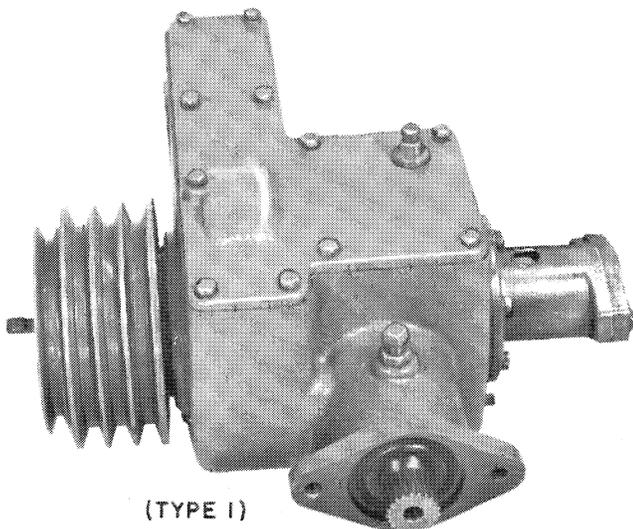

FIGURE 1
**90° GEARBOX (TYPE 1)** — See Figure 1